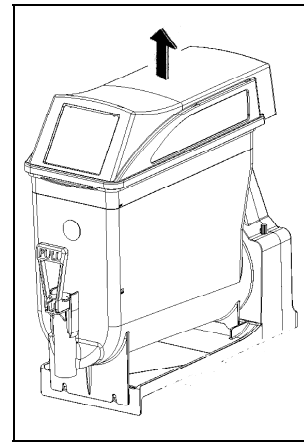

Fig. 5
- Remove the main cover (see fig.5).